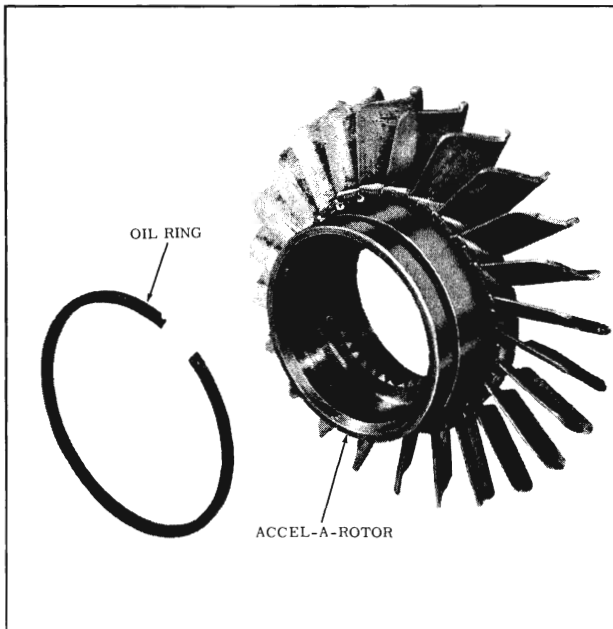

Fig. 3-38 Accel-A-Rotor
15. If necessary, remove oil rings from driven torus member and accel-a-rotor (three rings). (Figs. 3-38 and 3-39)